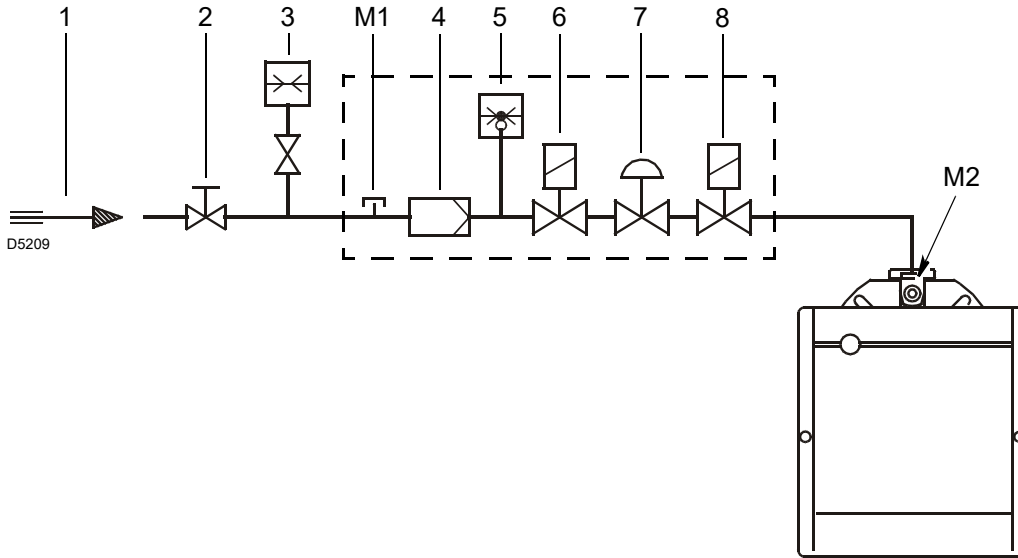

Fig. 14
Key (Fig. 14)
Gas pressure measured at test point M2)(Fig. 14), with:
- subtract the pressure in the combustion chamber from the pressure of the gas at test point M2)(Fig. 14).
$$\begin{aligned} \text{Gas pressure at test point M2)(Fig. 14)} &= 12.2\text{mbar} \\ \text{Pressure in combustion chamber} &= 2.2 \text{ mbar} \\ 12.2 - 2.2 &= 10 \text{ mbar} \end{aligned}$$
To calculate the required gas pressure at test point M2)(Fig. 14), with the maximum modulating output at which you want the burner to operate having been fixed:
- Read on the right, column 1, the pressure at the test point M2)(Fig. 14).
pressure required at the test point M2)(Fig. 14).